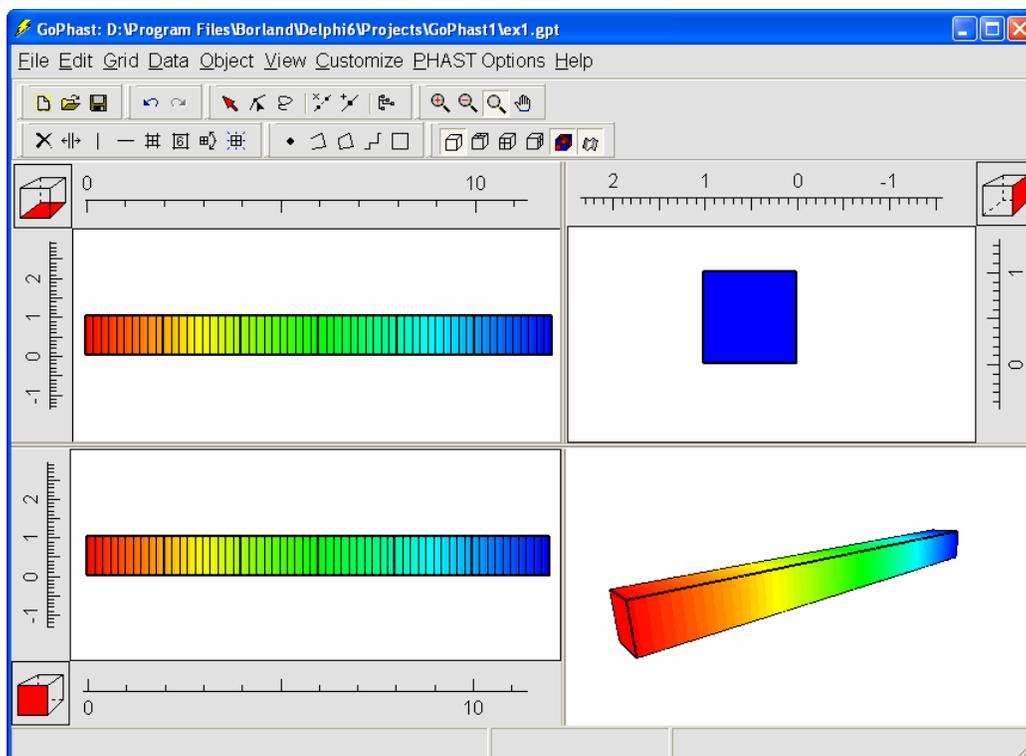

Figure 41. Main window showing the grid being colored by the **Initial_Head** data set.
21. The model is now ready to run. However, before running it, it is worthwhile to color the grid with some of the data sets to make sure the data have been applied properly. Select **Data|Color Grid...** and select the **Initial_Head** data set. Click the **OK** button. The model should appear similar to figure 41. Try using the **Selection Cube** for the side view of the model to change the selected column progressively from 1 to 61. The color displayed on the side view should change from red to blue. (See “The Selection Cube” on p. 9.) If the mouse cursor is over a colored cell or element on the top view of the model, the value of the data set for the colored element or cell will be displayed in the third panel of the status bar along with an explanation of how the value was assigned. It is possible to color the grid using the **Specified_Head_Solution** data set at time 0 and time 60.